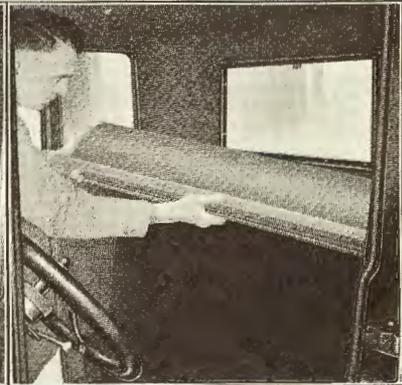

Fig. 569
- 1264** By tipping up the back of the spacer board, it can be lifted out as shown in Fig. 569.